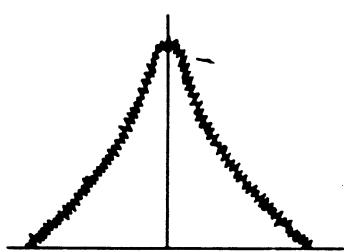

Fig. 7
**Note 2.:** Adjust output of sweep generator so that noise appears on IF-curve as shown in Fig. 7 below and adjust T1 and T2 for maximum indication.